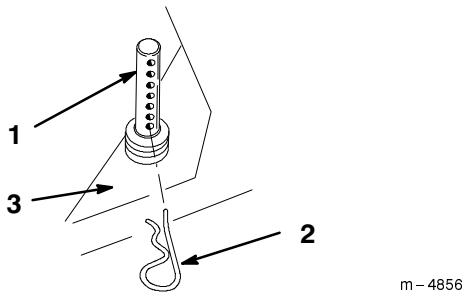

Figure 23
2. Lifting slightly on the deck handles, remove hairpin cotters from the height-of-cut posts and separate mower from carrier frame (Fig. 23).